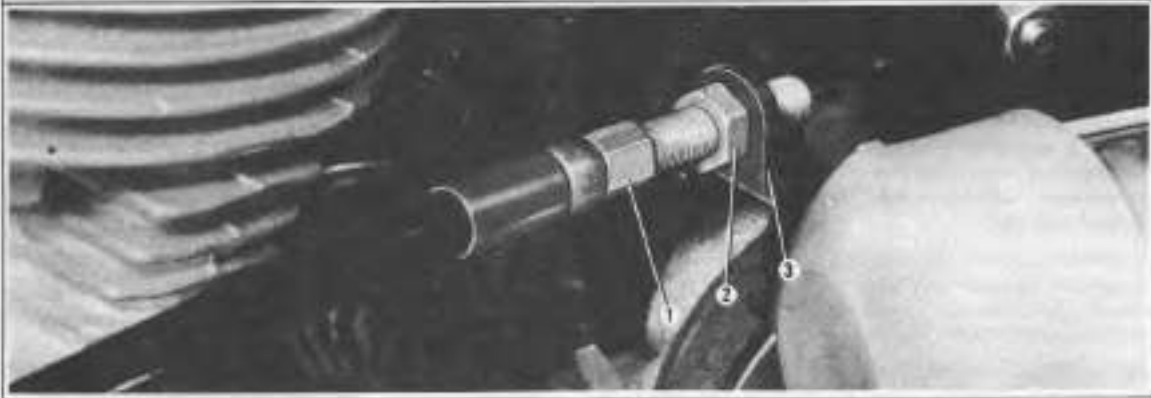

Figure 4-2. Adjusting Clutch
### ADJUSTING FOOT CLUTCH CONTROL (Figure 4-2)
### ADJUSTING HAND CLUTCH CONTROL (Figure 4-2)
Loosen control coil adjusting sleeve locknut (2) (Figure 4-2) and turn control coil adjusting sleeve (1) all the way into bracket. Remove chain housing cover, loosen clutch push rod screw locknut (4) and turn screw (5) in (clockwise) to remove lever (8) to the rear, or outward (counterclockwise) to move end of lever forward. When 1/2 in. clearance between lever and starter motor has been attained, tighten locknut (4) and reinstall chain housing cover.
If the clutch slips after adjusting clutch control, increase spring tension on the three clutch spring guide stud nuts (6) (Figure 4-2). Remove clutch cover and tighten all three nuts one-half turn at a time until clutch holds. Test after each half turn by cranking the engine. Usually a clutch that holds without noticeable slipping when cranking the engine will hold under normal road conditions. Do not increase spring tension any more than is necessary to make clutch hold.